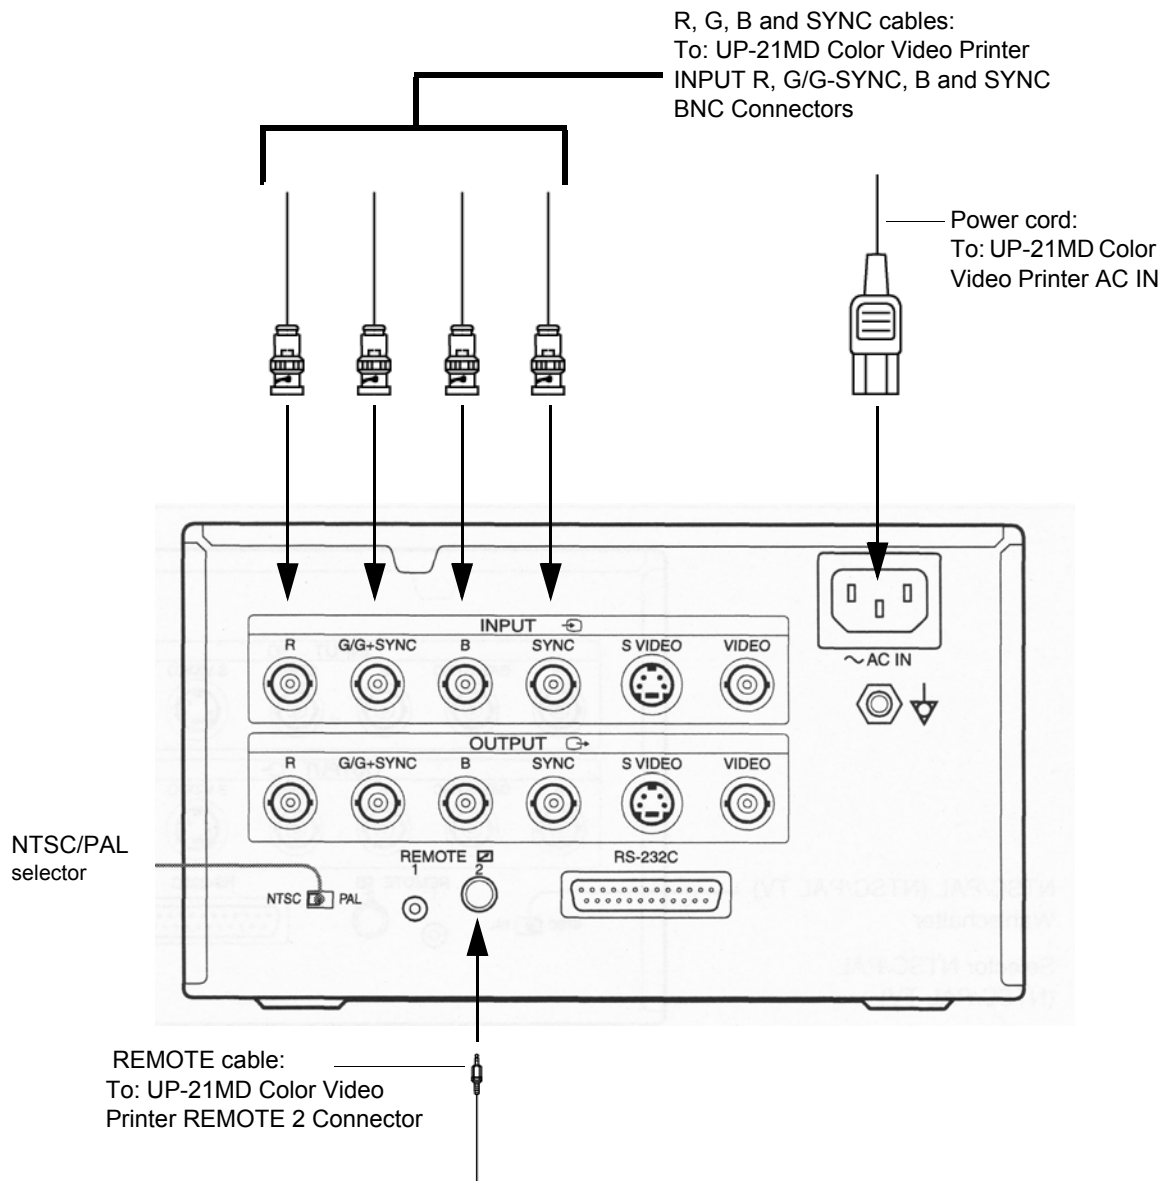

Figure 8-131 Sony UP-21MD Color Video Printer Connection Cables
- 3.) Set the NTSC/PAL selector switch to PAL or NTSC as shown in Figure 8-131 on page 8-137.
- 7) Connect the RGB and SYNC cables, Color Printer Remote cable, and AC power cable (hanging out of the Bottom Metal Cover slot - see Figure 8-129 on page 8-136), to the UP-21MD Color Video Printer, as shown in the diagram in Figure 8-131 below.